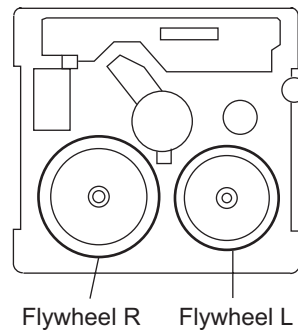
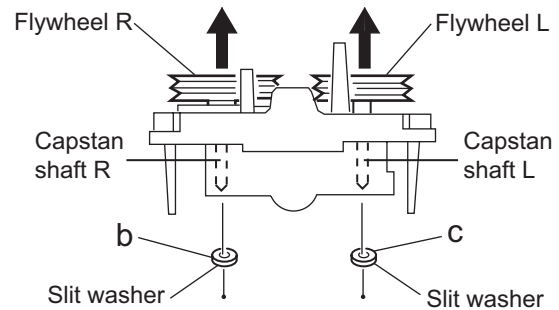

Fig.12
Fig.13
**(See Fig. 12, Fig. 13)**
- (1) Remove the head amplifier & mechanism control board.
- (2) Remove the capstan motor assembly.
- (3) After turning over the cassette mechanism, remove the two slit washers and fixing capstan shaft L and R, and pull out the flywheel (R) and (L) respectively from behind the cassette mechanism.